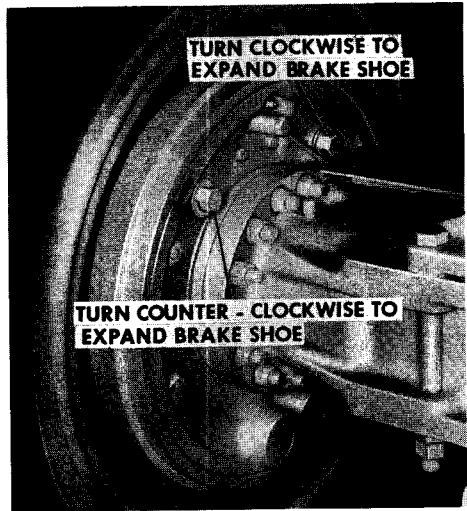

Figure 75
2. Expand brake shoes on each front wheel, as shown in Figure 75, until a heavy drag is felt when rotating the wheels.